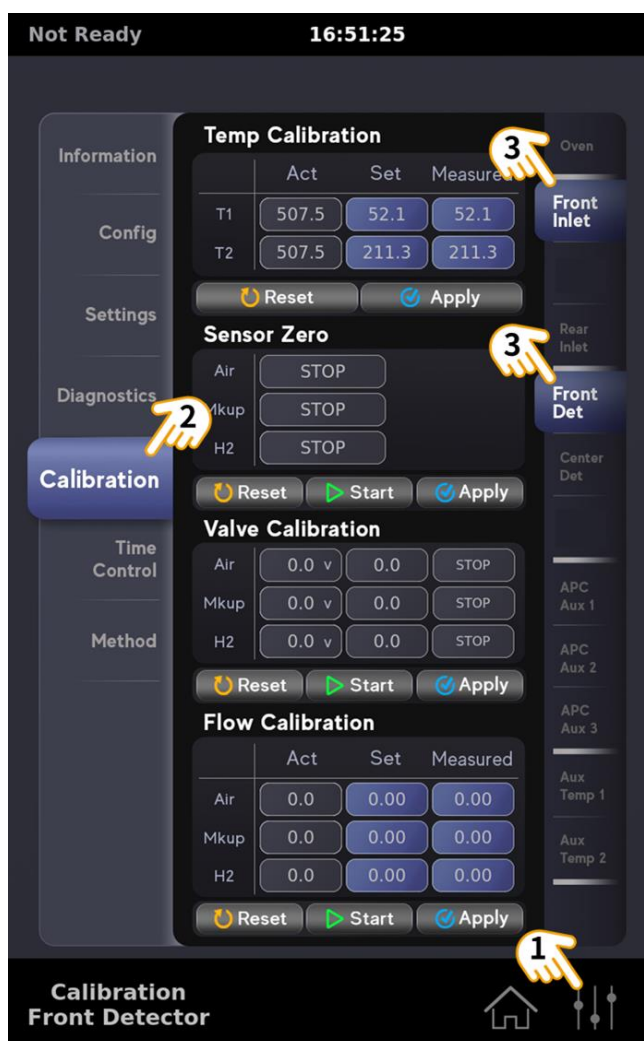

Figure 2. How to open the calibration window
- ❖ Go to [Setting] window by touching icon (see Figure 2) located bottom right of GC LCD display.